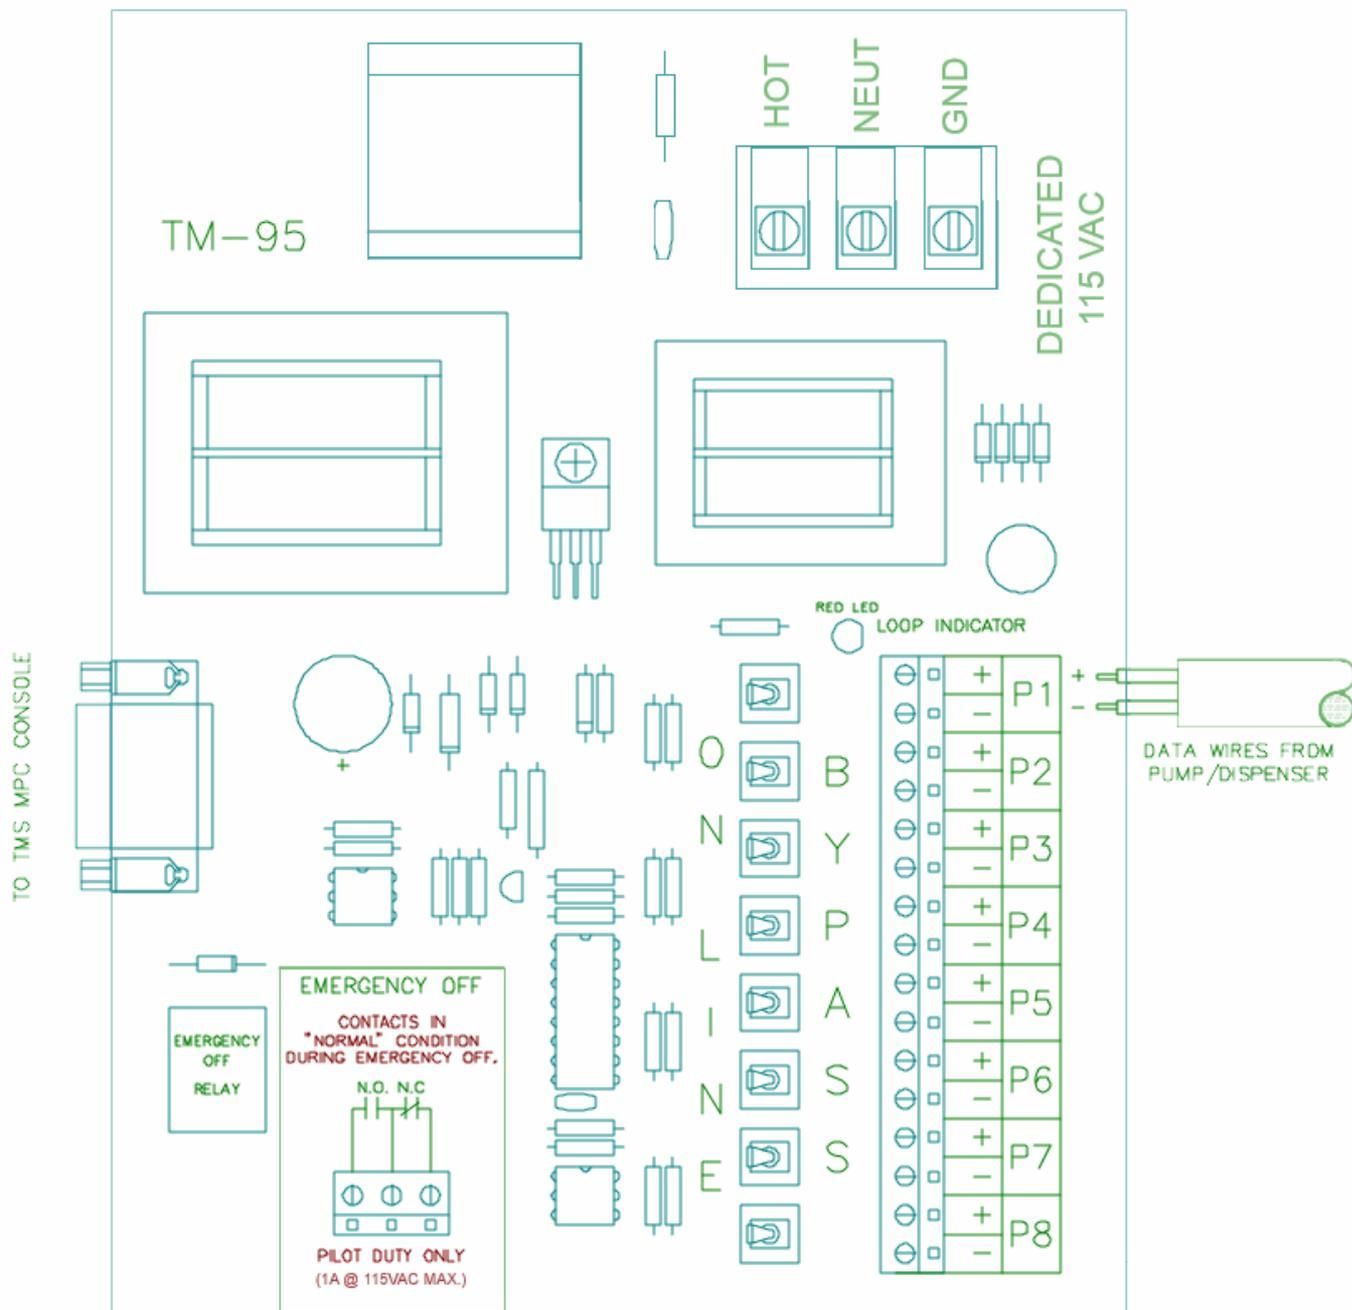

Figure 2 Wiring Diagram for a TMS MPC for Gilbarco System
2. Connect the Gilbarco pump/dispenser data wires to the MPC-TM95 communication board terminal strips in the TMS MPC for GILBARCO IC box as shown in Figure 2 on page 6.
14. Figure 2 on page 6 shows the Emergency Off connector located in the TMS MPC for GILBARCO IC Box. The EMERGENCY OFF spdt relay is for pilot duty only (max. 1A @ 115VAC). The connector provides a dry contact relay closure across COM and NO when the console is ON and the "EMER OFF" switch has not been activated (EMER OFF light not blinking). The relay is in its normal (de-energized) state and breaks this connection whenever: